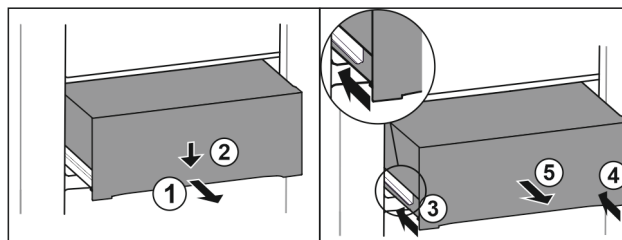

Fig. 216
- Pull out drawer half-way. Fig. 216 (1)
- Push the drawer down at the front. Fig. 216 (2)
- Push the left rail in by about 2 cm. Fig. 216 (3)
- Push the right rail in by about 2 cm. Fig. 216 (4)
- Remove drawer to the front. Fig. 216 (5)